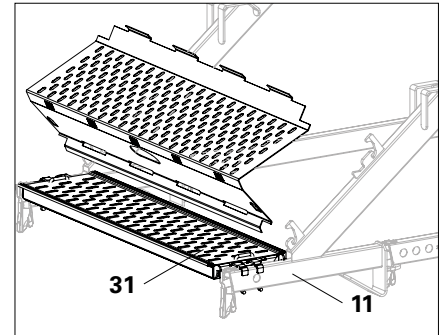

Fig. A2.08a
2. Tilt the first step (**12**) and place it in the lowest support (**11.1**) of the stair stringers. (Fig. A2.08a)